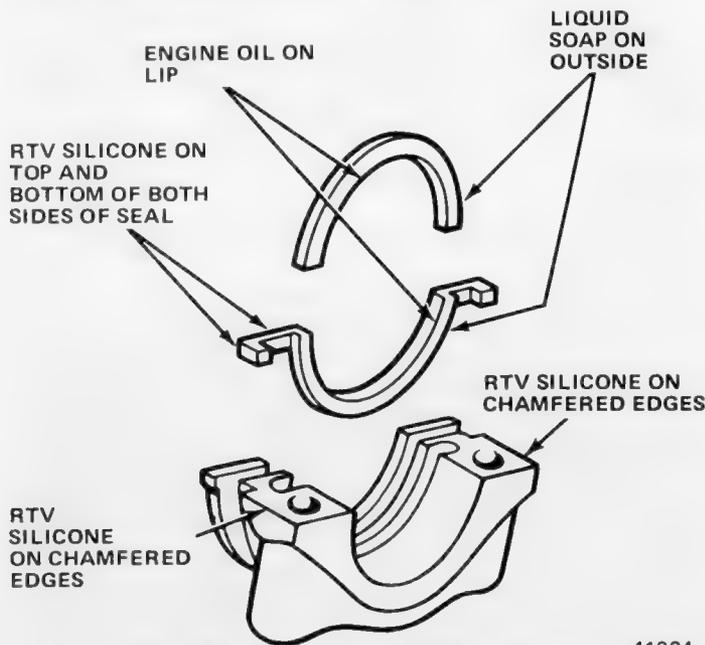

Fig. 1B-173 Rear Main Oil Seal Installation
- (1) Wipe crankshaft seal surface clean. Oil lightly.
- (2) Coat block contacting surface of replacement upper seal with soap and lip of seal with engine oil (fig. 1B-173).